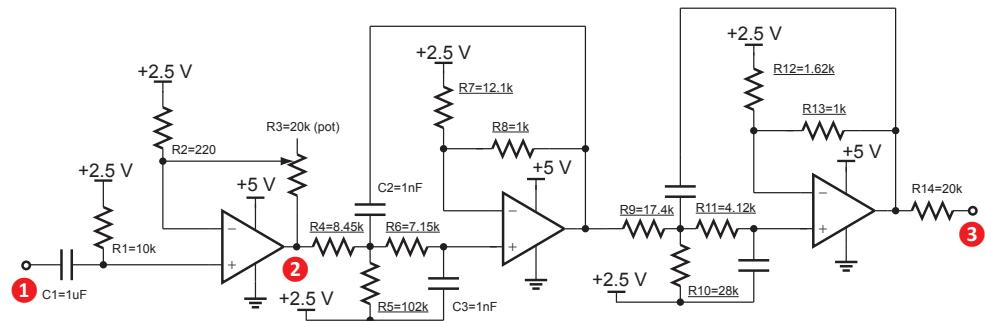

Figure 14: Schematic of the active low-pass filter. Underlined resistors values are 1% tolerance.
1. Using Fig. 14-a as a reference, connect the Teensy to the MCP4921 DAC. Connect the MCP4921's VDD pin to the output of the LM317 regulator (5 V). Connect the MCP4921's VREF pin to the LT1009 reference's output (2.5 V). Connect both AVSS and LDAC of the MCP4921 to ground. A 0.1 μ F and a 1 μ F capacitor could be used at VREF to minimize noise at the reference. It is very important to keep your circuit (ICs, resistors, capacitors, wires, etc) organized. Use as short of a wire as possible between two connection points. Refer to Fig. 14-b for an example layout.